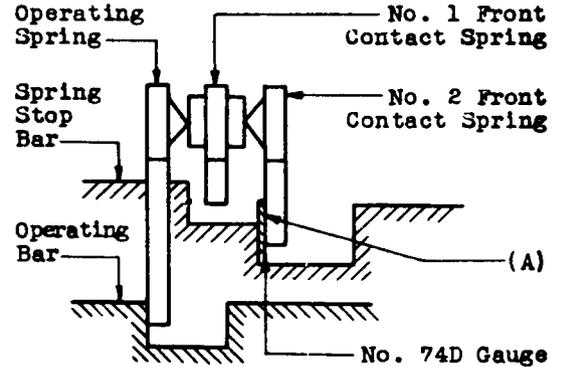

Fig. 25 - Contact Follow -
(2) No. 1 and No. 2 Front Contact Springs - Fig. 25 (A): With the operating bar in the operated position, the .004" blade of the No. 74D gauge inserted between the tang of the No. 2 front contact spring and the side of the associated notch in the spring stop bar nearer the cam roller, will not cause the contacts to break.